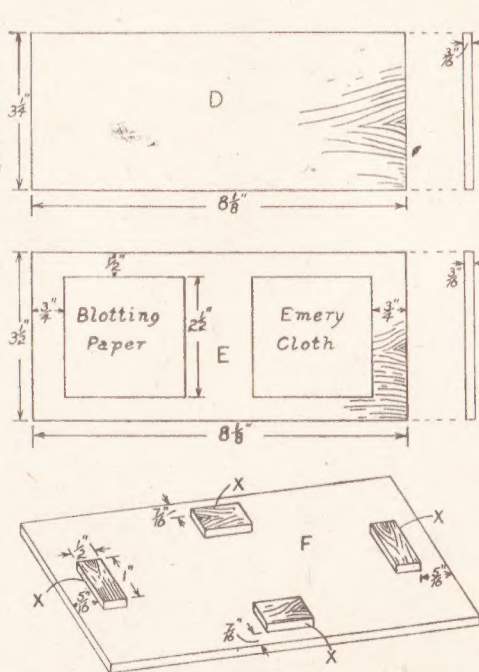

Fig. 4—Dimensions for the top and bottom
$8\frac{1}{8}$  ins. by  $3\frac{1}{8}$  ins., as indicated in (E) Fig. 4, and the positions of the blotting paper and emery cloth are also indicated. The blotting paper and emery cloth are fixed by a little glue applied along the edges.
Next cut four pieces of plywood 1 in. by  $\frac{1}{2}$  in., and carefully glue them on the underside of the lid, in the positions shown in (F) Fig. 4. The edges of the pieces marked (X) in view (F) Fig. 4, are carefully filed until the lid fits nicely in position on the box top.
cemented together, but merely laid end to end, and the trench in which they lie must be filled with light soil, not heavy impervious clay. With small lawns one pipe taken diagonally across with a branch to each corner will generally do all that is required (Fig. 4). Bigger lawns need more considered treatment.